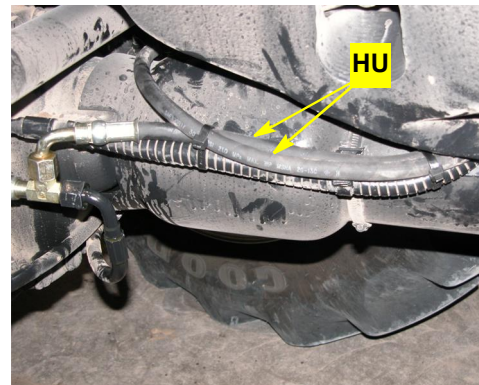

Figure 4d: Steering hoses secured with ties
- d. Secure the hoses to other machine plumbing using heavy tie straps provided (Figure 4d).